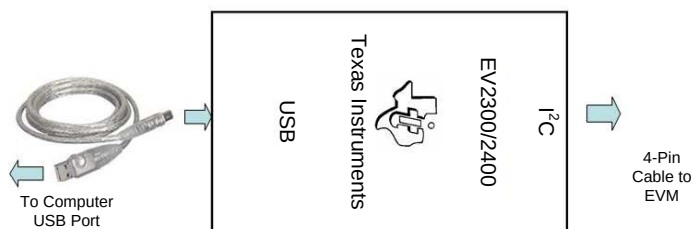

Figure 2. Connections of EV2300/2400
6. Connect the EV2300/2400 USB interface board to the computer with a USB cable and from the I²C port to J8 with the 4-pin cable. The connections are shown in Figure 2.